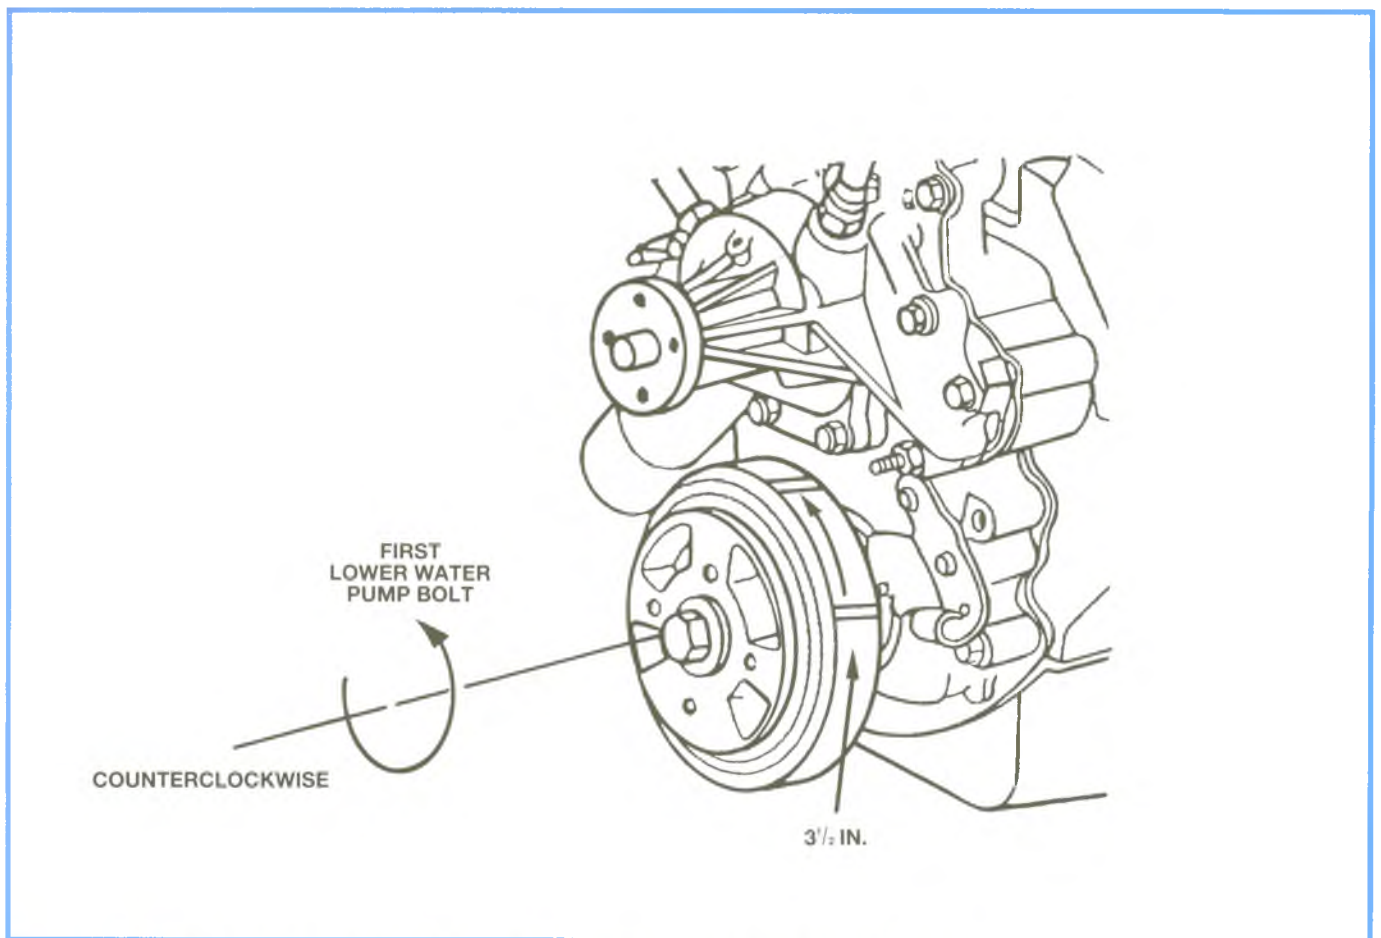

Figure 2-25, Crankshaft Position During Rocker Arm Installation
2. Rotate the crankshaft in a counterclockwise direction so that the torsional damper mark moves a distance of $3\frac{1}{2}$ in. (see Figure 2-25).